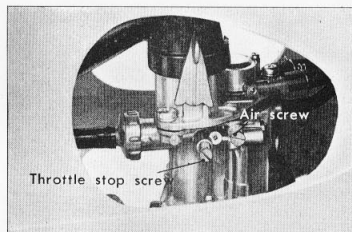

Figure 3-103. Idle adjustment
d. Adjusting the Idle (Fig. 3-103, 3-104)